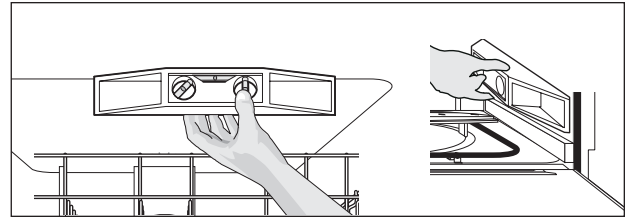

Figure 2-9. Checking Level
9. Check that dishwasher is level from side to side by placing a level against the top front section of the tub. (See Figure 2-9)